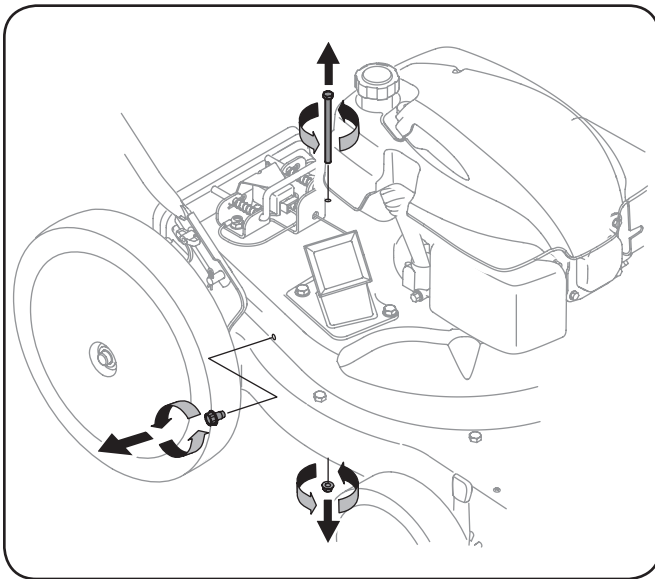

Figure 6-2
4. Remove self-tapping screw on right side of unit that attaches to the flail screen. See Fig. 6-2.
5. Remove hex screw on top of rear housing near mounting bracket and the flange lock nut that secures flail screen. See Fig. 6-2.